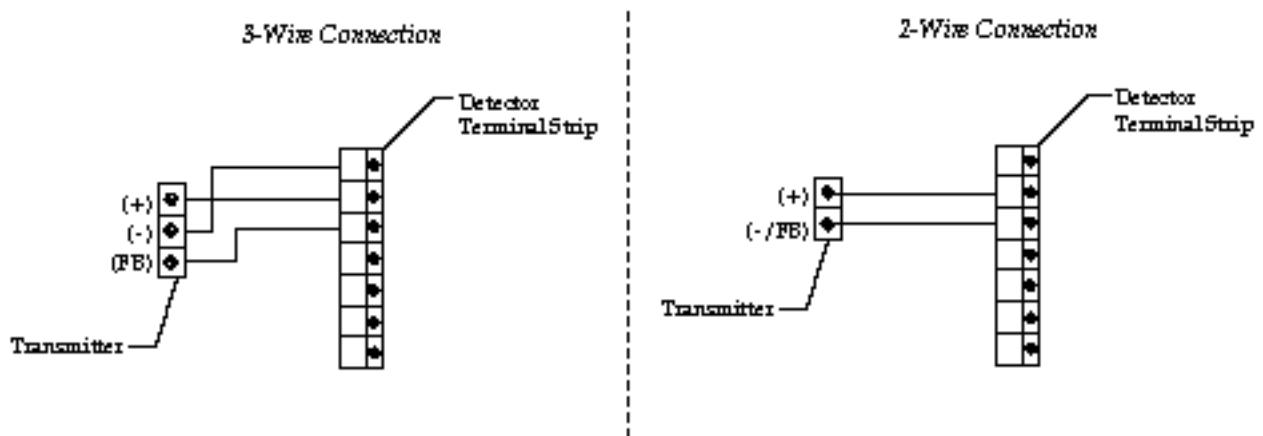

Figure 2-5: Generic 4 to 20 mA Transmitter Output Wiring
3. Connect the wires to the detector terminal strip of the applicable analyzer card as shown in Figure 2-5 below. The detector is the 7-point terminal strip (terminals 1 through 7) on the card.